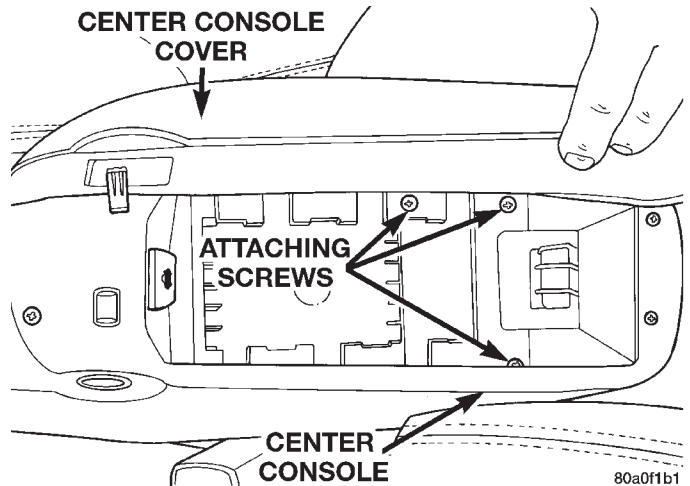

Fig. 133 Center Console Rear Attaching Screws
(4) Remove the 3 screws attaching the rear of the center console to the console bracket (Fig. 133).
(23) Install the 3 screws attaching the rear of the center console to the console bracket (Fig. 133).